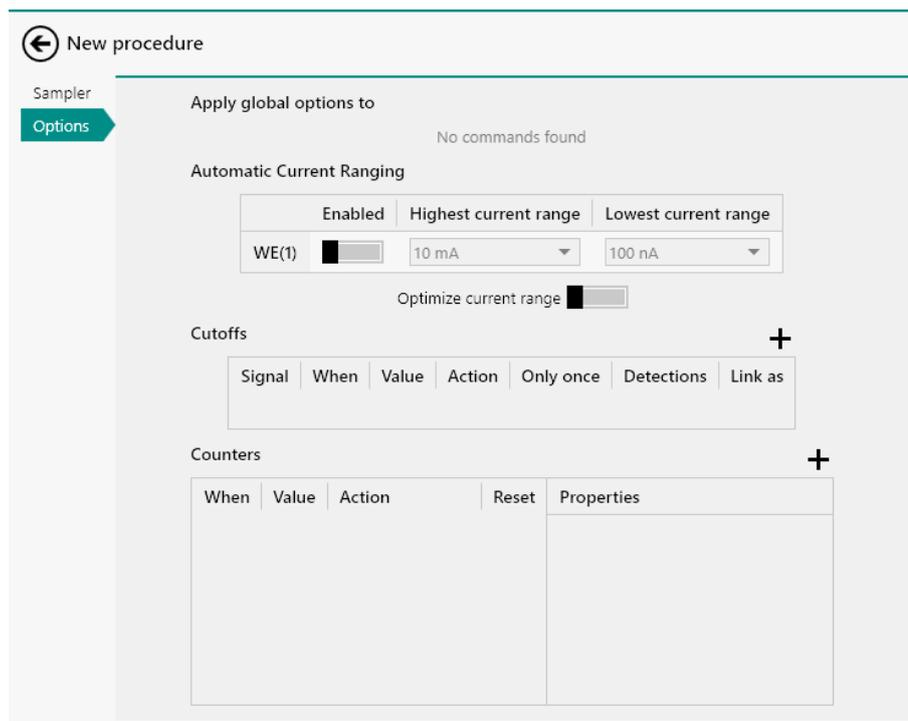

Figure 791 The global options settings
- **Options:** the settings in this section define the global options settings (see figure 791, page 649).